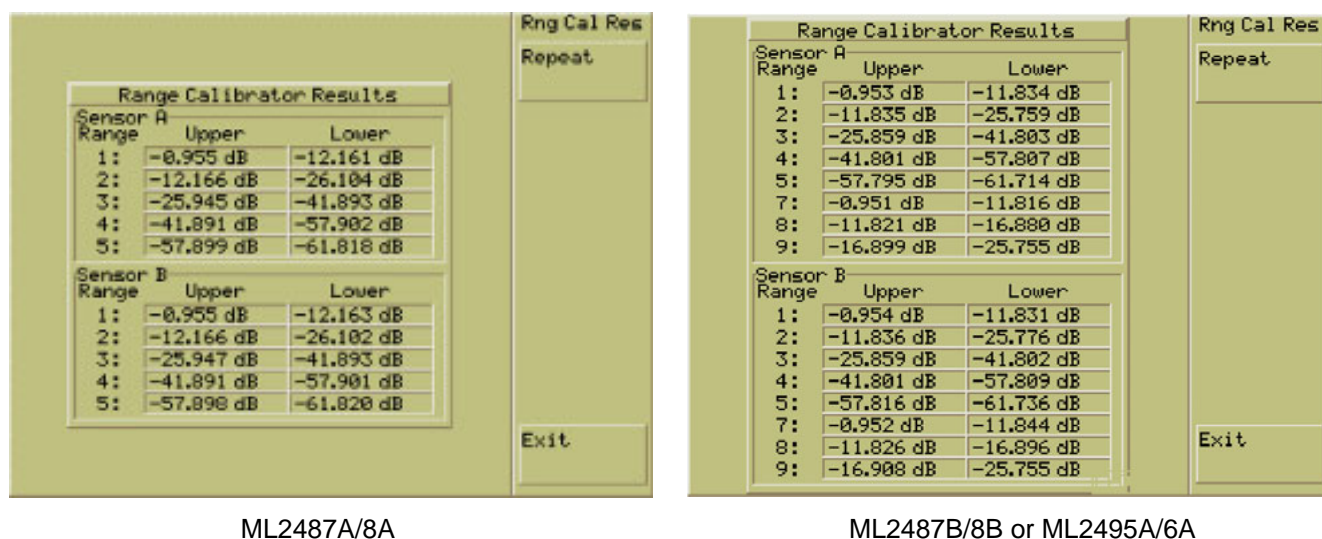

Figure 3-2. Range Measurement Results
5. When all measurements have been performed on the selected inputs, the results are presented on the screen and soft keys are displayed as shown in Figure 3-2.
The absolute error is the difference between the measured level and expected level. For example, from the readout shown in Figure 3-2, the calculated absolute error for Range 1 Upper (R1U) is: